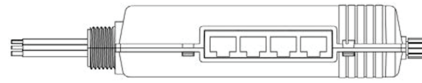

Figure 2: Room Controller SmartPORTs – Connect control devices (e.g. occupancy sensors, daylight sensor and switches) to any available Smart Port
5. If control devices (e.g. occupancy sensors, daylight sensor and switches) are going to be used, attach them to any available Smart Port with the appropriate CAT5 device cable. Similar devices (e.g. switches) may be daisy chained together from the same Smart Port. ( See Figure 2)